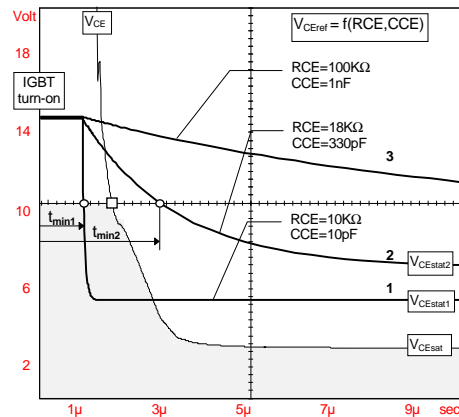

Fig.6  $V_{CEref}$  waveform with parameters  $R_{CE}$ ,  $C_{CE}$
5) With RCE = 18 kΩ, CCE = 330 pF; see fig. 6 (SKHI 10; for IGBT up to 1200 V)
This circuit is responsible for short-circuit sensing. Due to the direct measurement of  $V_{CEstat}$  on the IGBT's collector, it blocks the output buffer (through the soft turn-off circuit) in case of short-circuit and sends a signal to the ERROR memory on the primary side. The recognition of which  $V_{CE}$  level must be considered as a short circuit event, is adjusted by  $R_{CE}$  and  $C_{CE}$  (see Fig. 2), and it depends of the IGBT used. Typical values  $R_{CE} = 18k\Omega$  and  $C_{CE} = 330 pF$  for SKHI 10 are delivered from factory (Fig. 6, curve 2). Using SKHI 10/17 the driver will be delivered with  $R_{CE} = 36 k\Omega$  and  $C_{CE} = 470 pF$  from factory.
To avoid a false failure indication when the IGBT just starts to conduct ( $V_{CEsat}$  value is still too high) some decay time must be provided for the  $V_{CEref}$ . As the  $V_{CE}$  signal is internally limited at 10V, the decay time of  $V_{CEref}$  must reach this level after  $V_{CE}$  or a failure indication will occur (see Fig.6, curve 1). A  $t_{min}$  is defined as function of  $V_{CEstat}$  and  $\tau$  to find out the best choice for  $R_{CE}$  and  $V_{CE}$  (see Fig.6, curve 2). The time the IGBT come to the 10V (represented by a „□“ in Fig. 6) depends on the IGBT itself and  $R_{gon}$  used.